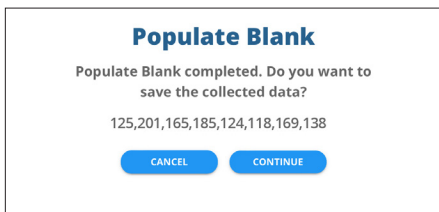

Fig. 35—The message indicates that the blank measurements have completed.
9. After the measurement is completed, a message appears (Fig. 35). Press *OK* to complete the sequence. You may re-sample the blanks as many times as desired, now or in the future.